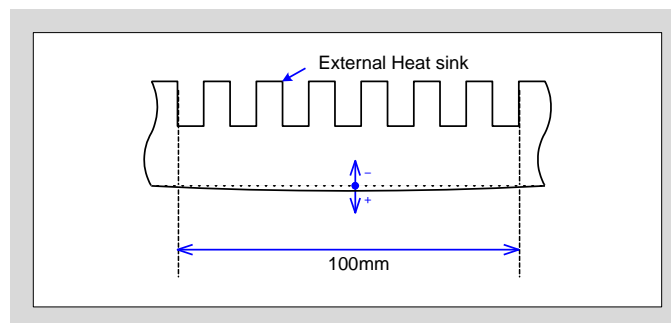

Fig. 6-2 The measurement point of heat sink flatness
- As shown in Fig. 6-2, the heat sink flatness should be $0\mu\text{m}/100\text{mm}$ to $+100\mu\text{m}/100\text{mm}$, and the surface roughness (Rz) should be less than $10\mu\text{m}$.